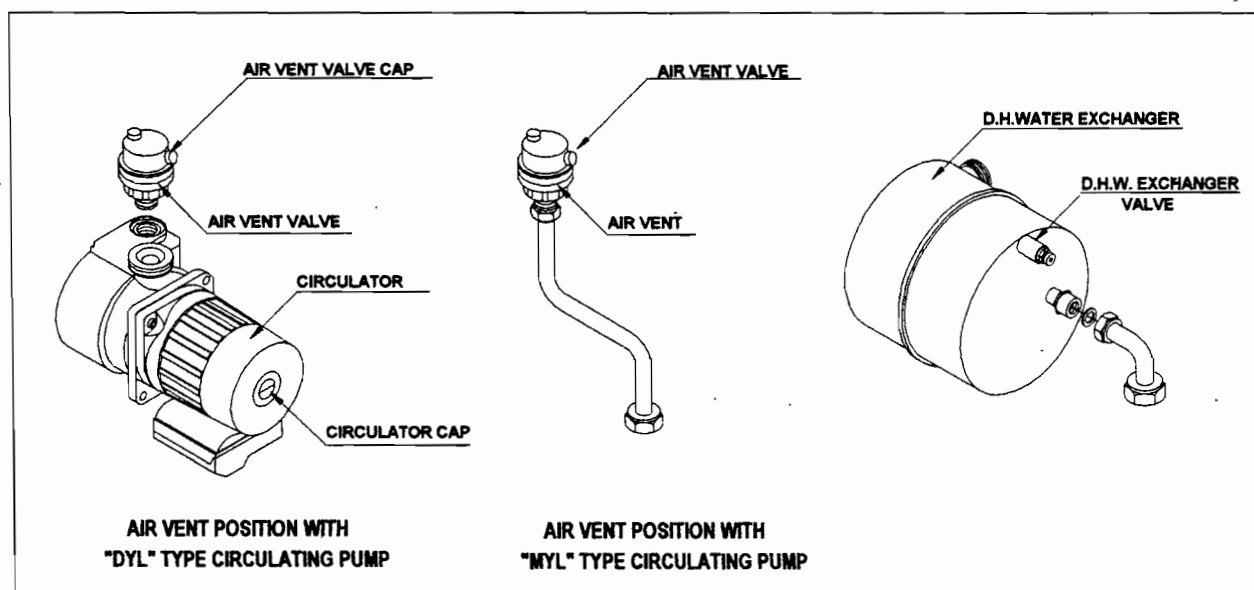

Fig. 1
- b - Check that the cap on the air vent valve is slightly loose so that air may purge from the system (see fig. 1).
- c - Unscrew the pump cap to eliminate any air bubbles. Loosen the D.H. Water Exchanger valve and close it as soon as water comes out; purge air from all radiators as well (see fig. 1).